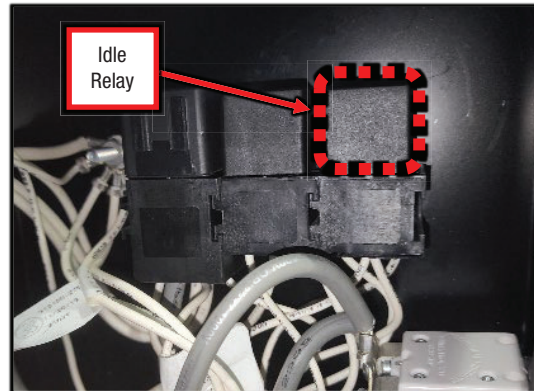

Figure F.2
- A.2. Label and disconnect the Idle Relay from its socket, refer to Figure F.2.